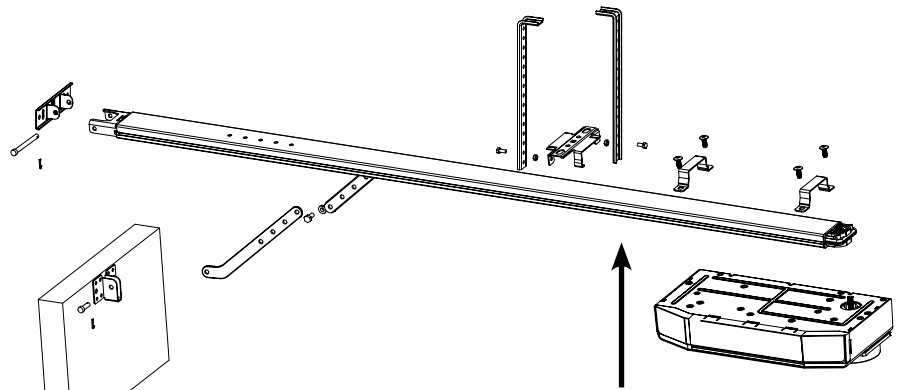

Fig.2
- After converter is connected, install the C-rail same as normal way (Figure 2).